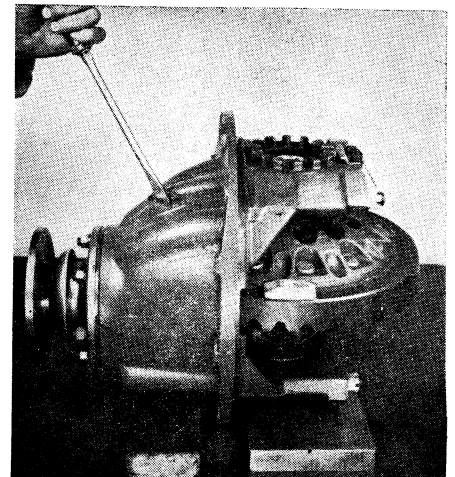

Fig. 91 Removing thrust block adjusting screw
2. Remove adjusting screw and lock nut, Fig. 91.